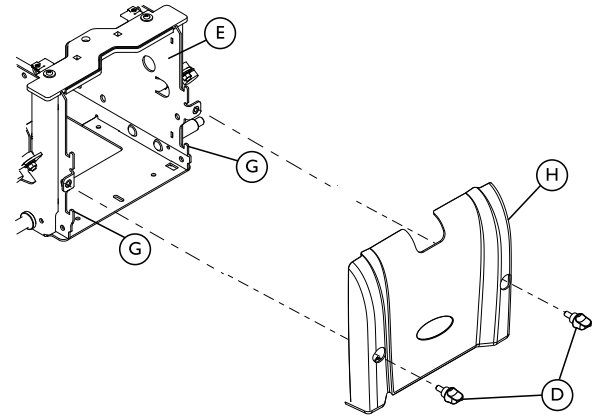

Fig. 9-2 Removing the Front Shroud
- All other power wheelchairs: The front shroud is removed and installed as a single assembly. Refer to *Figure 9-2 Removing the Front Shroud, page 73.*